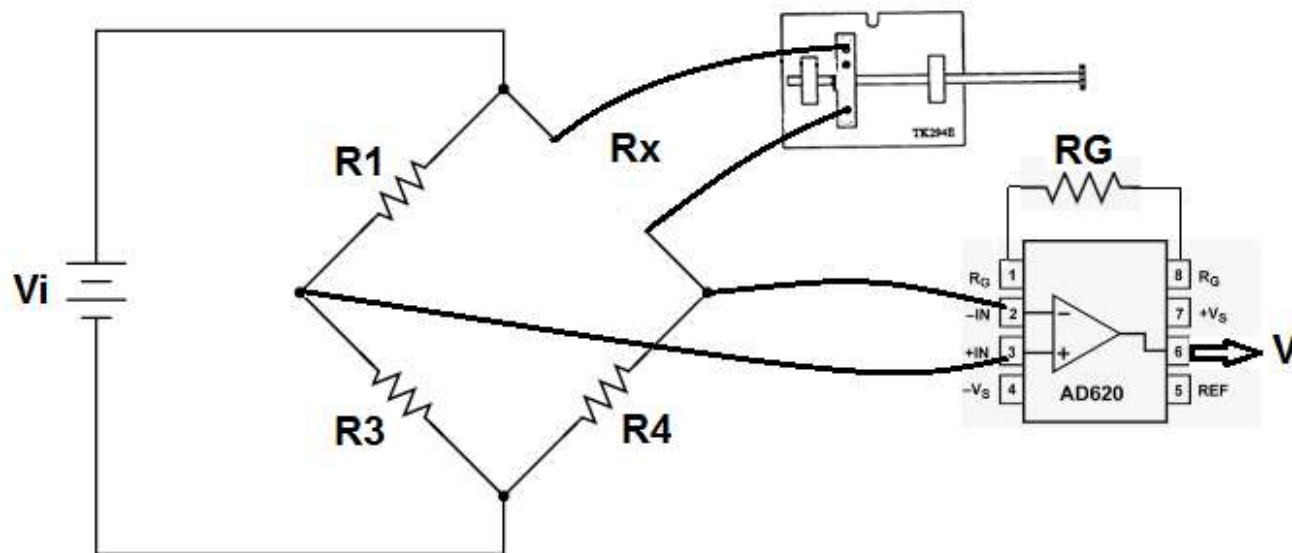

Figure 4.3: Strain Gauge circuit.
- After designing the bridge use AD620 instrumentation amplifier see the data sheet. You need to specify the value of  $R_G$  depending on the maximum output voltage of the bridge, see figure 4.3.